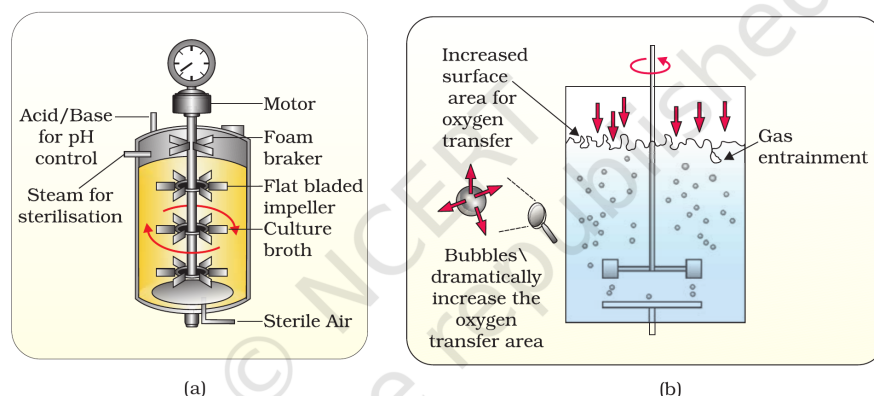

Figure 9.7 (a) Simple stirred-tank bioreactor; (b) Sparged stirred-tank bioreactor through which sterile air bubbles are sparged
Fig. 9.7, NCERT Class 12 Biology, Chapter 9. (a) Simple stirred-tank bioreactor showing motor, foam breaker, flat-bladed impellers, pH control, and sterile-air inlet. (b) Sparged stirred-tank bioreactor in which sterile-air bubbles dramatically increase the oxygen-transfer area.
- Step 3. Sterile environment maintained at scale.** The bioreactor body is built for in-situ steam sterilisation (the “Steam for sterilisation” inlet in Fig. 9.7 a) and carries a sterile-air filter on the sparger. Shake flasks rely on a cotton plug and quickly contaminate above 5 L.